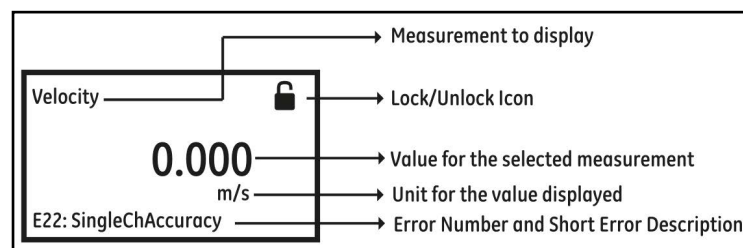

Figure 22: Measurement View
After power up, if the meter's *Measurement View* (Refer Figure 22) shows a lock icon on the top right of the display, use the following steps to unlock the meter from keypad lockout mode.
- Finally, the *Measurement View* (Refer Figure 22)
This screen (Refer Figure 22) will be referred to as "*Measurement View*" throughout this chapter. User can choose the measurement to be displayed in this view from a list of options. The Error indicator at the bottom left of the display will be blank if the meter has no error.